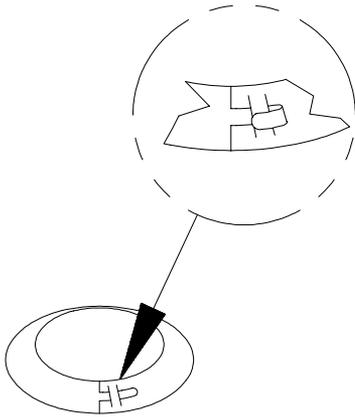

Fig 13
e. Wrap the **Collar** around the chimney and fasten it loosely. Slide the **Collar** down to meet the **Insulation Shield**. Slip the tab through the adjacent slot and fold it back to tighten the **Collar**. (Figure 13).